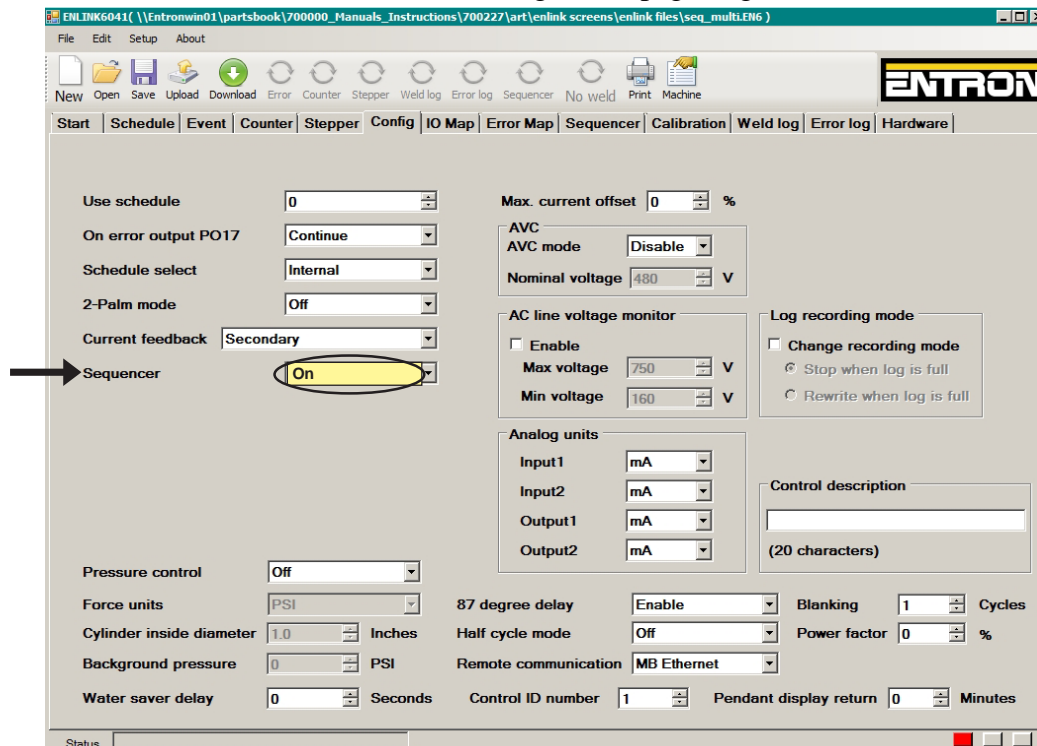

Figure 9-30. Configuration page
B. Enable SEQUENCER function on Configuration page (Figure 9-30).